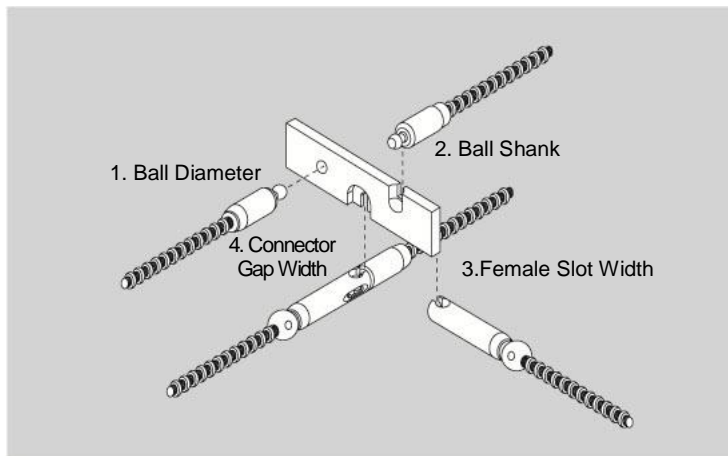

Figure 3.5 No-Go gauge tests
d. A final check of the control cable connector and source assembly connector is accomplished by use of a Model 550 NO GO gauge to check for significant wear on the connectors that would affect safety. Without using excessive force, check the following four positions (see figure 3.5):